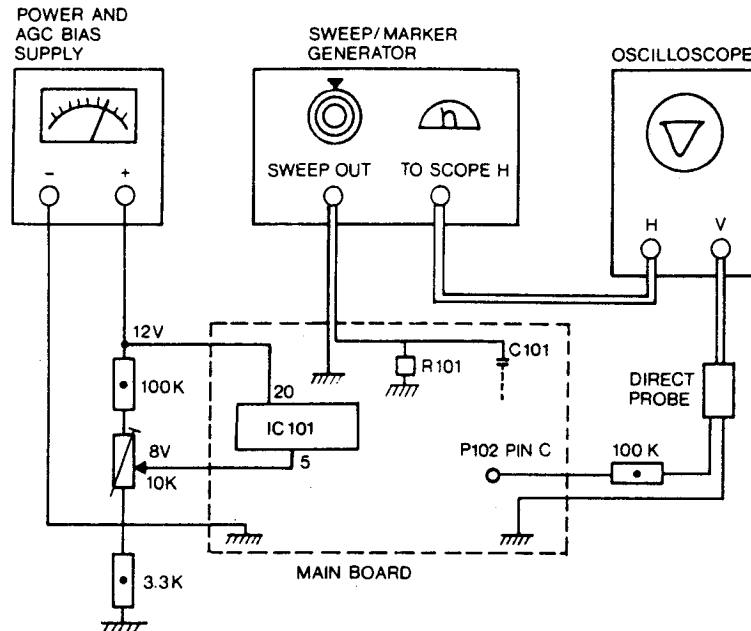

Fig.2 AFT Alignment
2. Supply 12V DC to pin 20 of IC101 and bias pin 5 of IC101 to 8V as shown in figure 2.